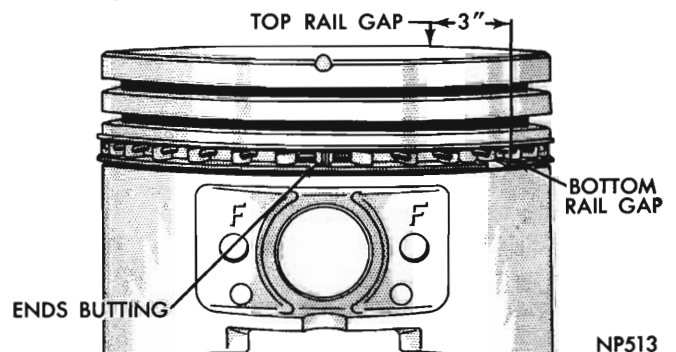

Fig. 35 – Proper oil ring installation
(1) Before installing pistons, and connecting rod assemblies into the bore, be sure that compression ring gaps are staggered so that neither is in line with oil ring rail gap.
(2) The oil ring expander ends must butt and the oil ring gaps located as shown in Fig. 35.
(3) Immerse the piston head and rings in clean engine oil, slide the ring compressor, Tool E193, over the piston and tighten with the special wrench (part of Tool E193).